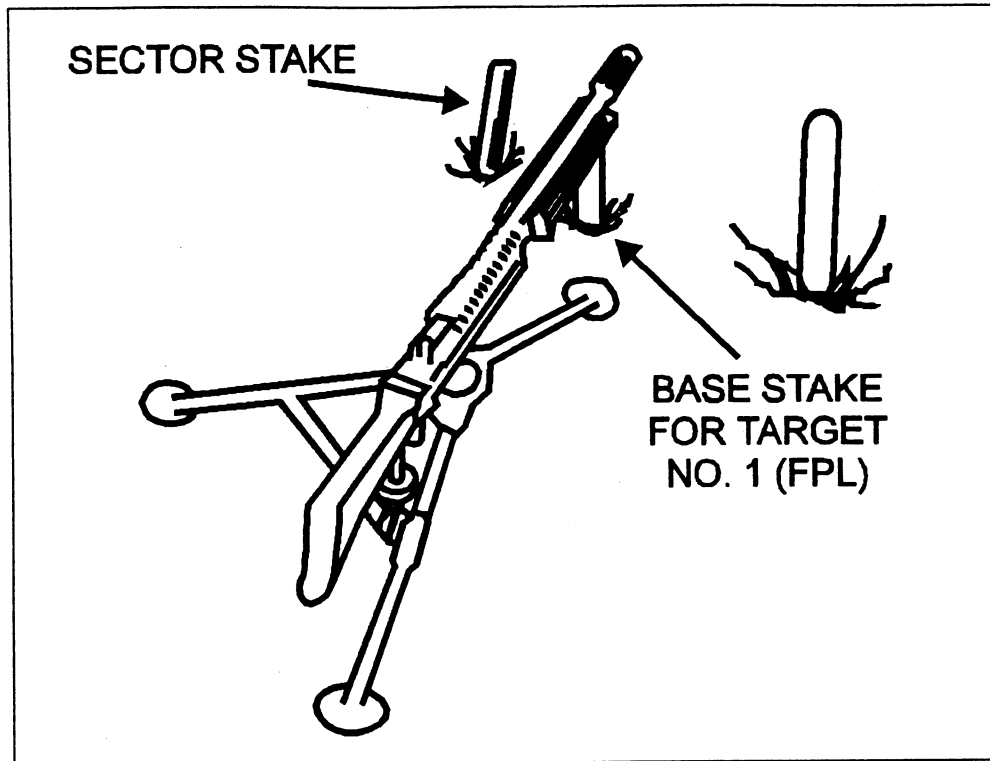

Fig 4-29. Base stake method.
b. Base stake method. The base stake method is the simplest and most useful field expedient. Stakes are used to define the sector limits and the FPL. A stake is driven into the ground under the gas cylinder to pick up the elevation needed to fire the FPL (see fig 4-29). Note that the T&E mechanism is still in use. This field expedient in particular will seriously limit the ability to quickly and effectively engage targets outside the sector.